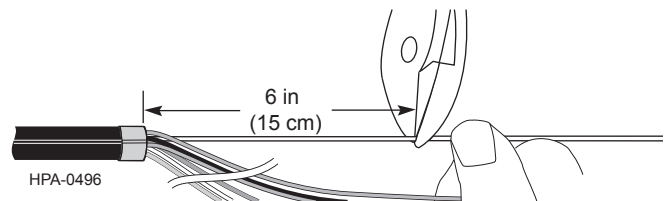

Figure 12
Step 6: Use side cutters to cut the dielectric central member to a length of 6 in (15 cm) (Figure 12).